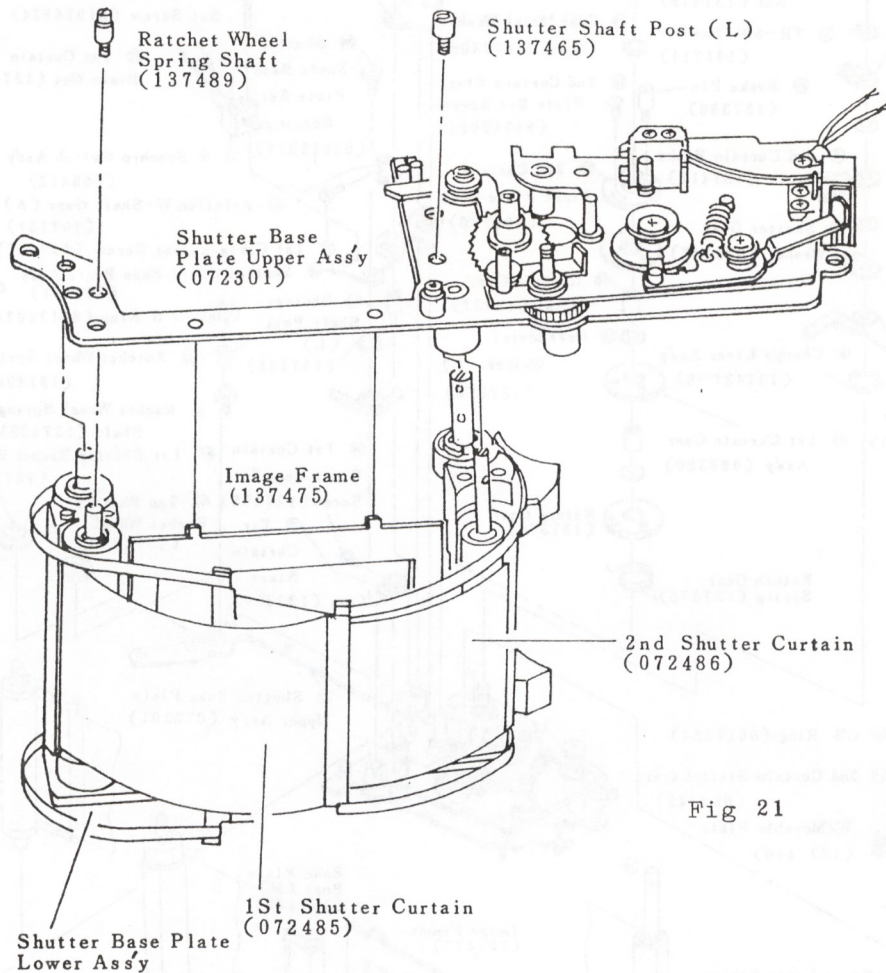

Fig 21
(2) Reassembling of the 1st & 2nd Shutter Curtain Ass'y.
- a) Fix the 1st & 2nd Shutter Curtain Ass'y properly to the Shutter Base Plate Lower Ass'y. See (Fig 21).
- b) Fix the Shutter Base Plate Upper Ass'y (072301) Ratchet Wheel Spring Shaft (137489) and Shutter Shaft Post (L) (137465). See (Fig 21)